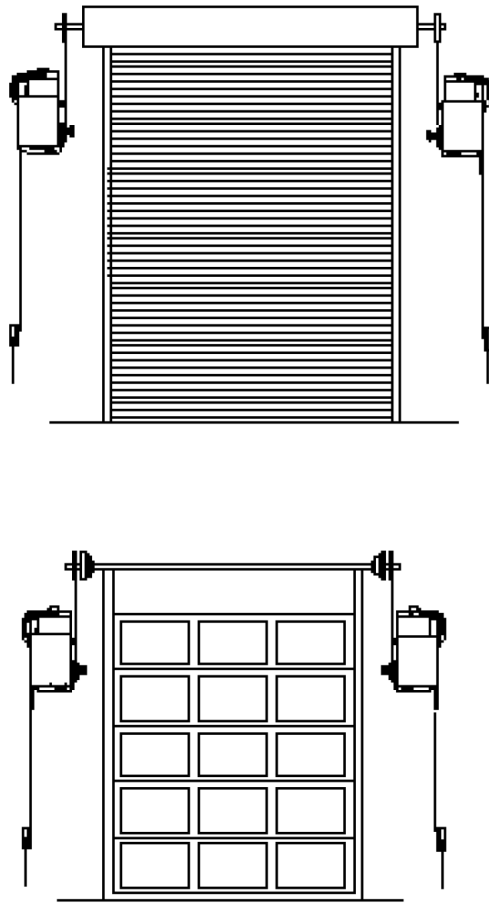

FIGURE 2
1. **Figures 2 and 3**, page 6 illustrates several positions suitable for mounting the operator; right hand or left hand wall mount or horizontal (shelf) mount to the torsion shaft. For sectional doors, the GJ operator must be wall mounted. For rolling steel doors the operator may be wall mounted or hood mounted by using an optional hood mounting bracket, [9].